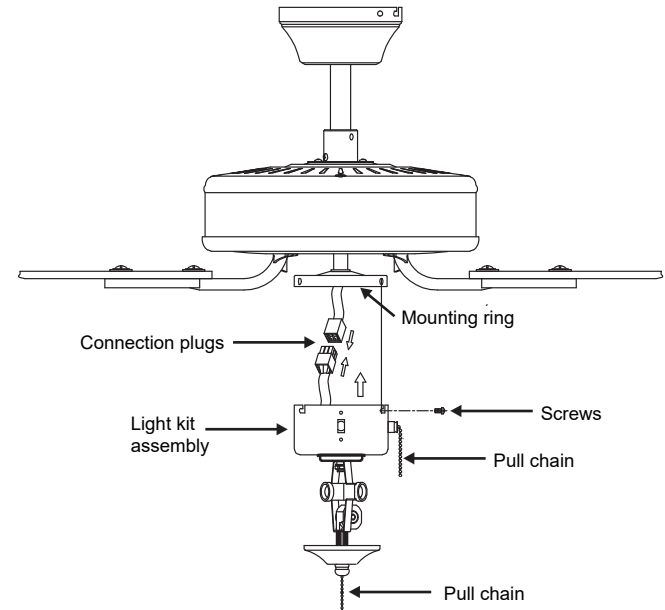

Fig. 16
Step 2. Raise and hold the light kit close to the switch housing. Snap together the wire connection plugs (**Fig. 16**).
Step 3. Carefully push all wires back into the switch housing, then install the light kit assembly onto the mounting ring with 3 screws provided. Be sure to tighten all screws (**Fig. 16**).